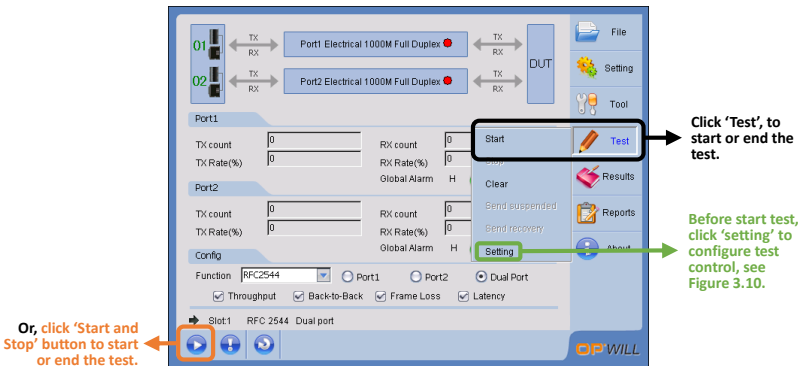

Figure 3.1.9 Start of End Test
- Or, click 'Start and Stop' button to start or end the test, see Figure 3.1.9;